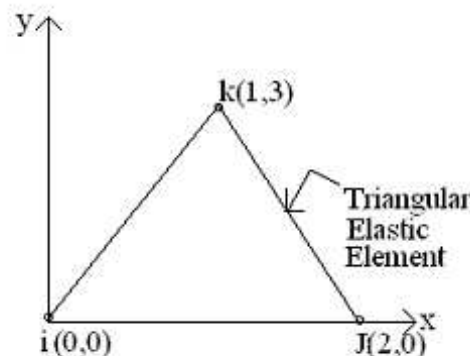

Figure 8
5. Calculate the element stiffness matrix and the thermal force vector for the plane stress element as shown in figure 8. The element experiences a  $10^0$  c increase in temperature.